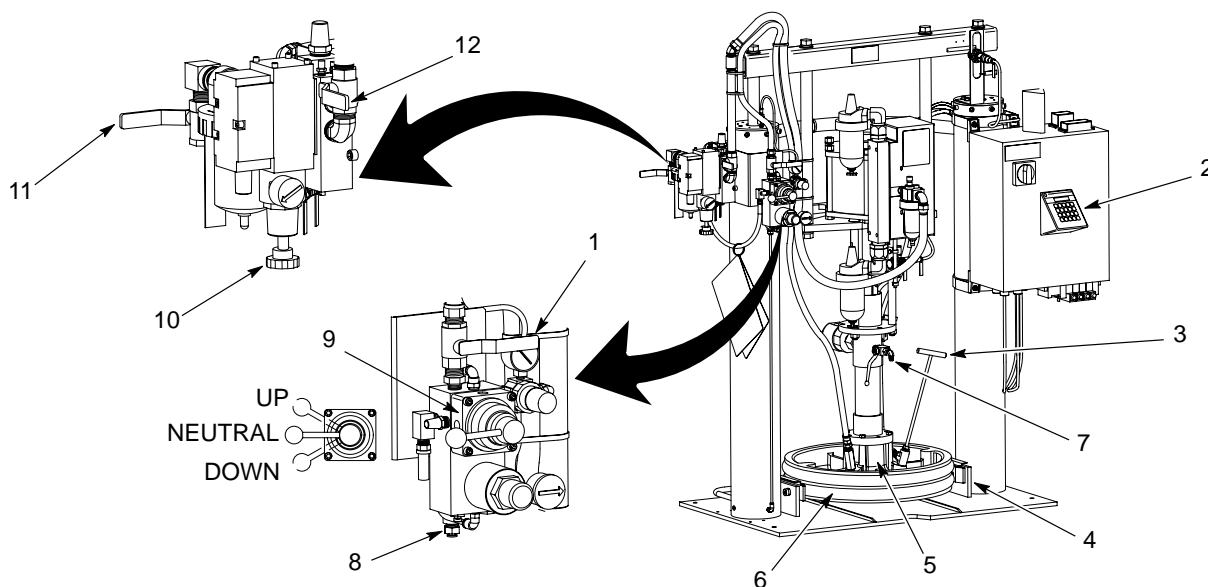

Figure 1
1. See Figure 1. Ensure that the main air valve (11) is turned ON.
2. Turn the rotary valve (9) to the NEUTRAL position.
3. Turn off the air motor lock out valve (12).
4. Open the blow off ball valve (1).
5. Turn the rotary valve (9) to the UP position to initiate the elevator UP movement.
6. Press the clean-out button (8) until the follower plate begins to move.
1. See Figure 1. Center the new container under the follower plate (5) to properly engage the hold-down (4).
2. Coat the follower plate seals (6) with a compatible lubricant.
3. Remove the bleeder stem (3).
See Figure 1. Use the keypad (2) to perform the following purge routine. The keypad is located on the control cabinet of the A unit. This procedure eliminates the remaining air volume from underneath the follower plate.
1. Adjust the air motor regulator (10) to 0 psi/bar.
2. Press **Menu** on the keypad (2).